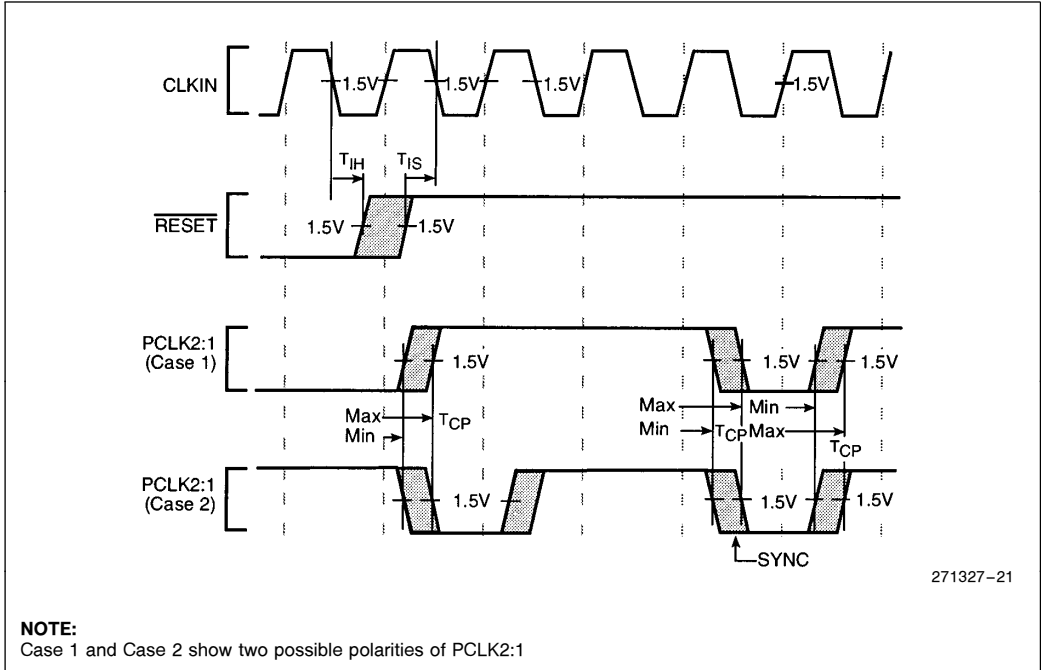

Figure 21. Clock Synchronization in the 2-x Clock Mode
- In 2-x clock mode, \overline{RESET} is an asynchronous input which has no required setup and hold time for proper operation. However, to guarantee the device exits reset synchronized to a particular clock edge, the \overline{RESET} pin must meet setup and hold times to the falling edge of the CLKIN. (See Figure 21).